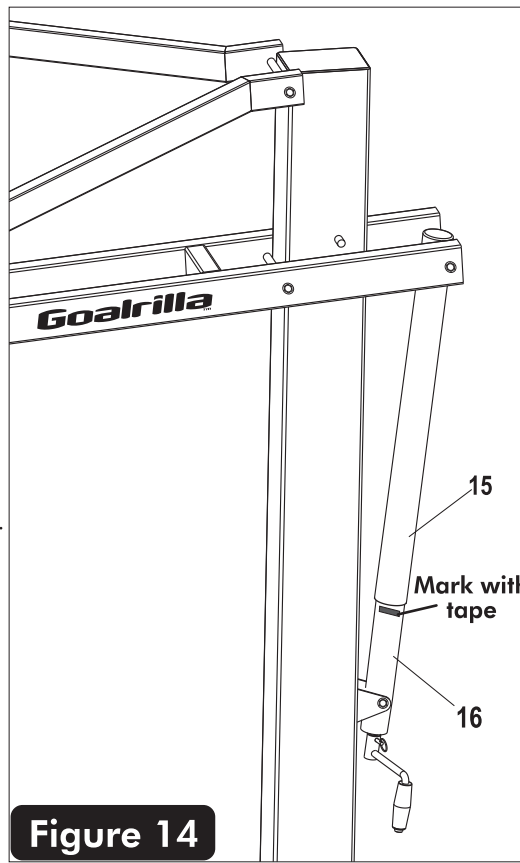

Figure 14
20. Using tape - mark the **side** of the steel actuator (#16) just under the plastic actuator sleeve (#15) at this 10 ft rim height. See **Figure 14**.